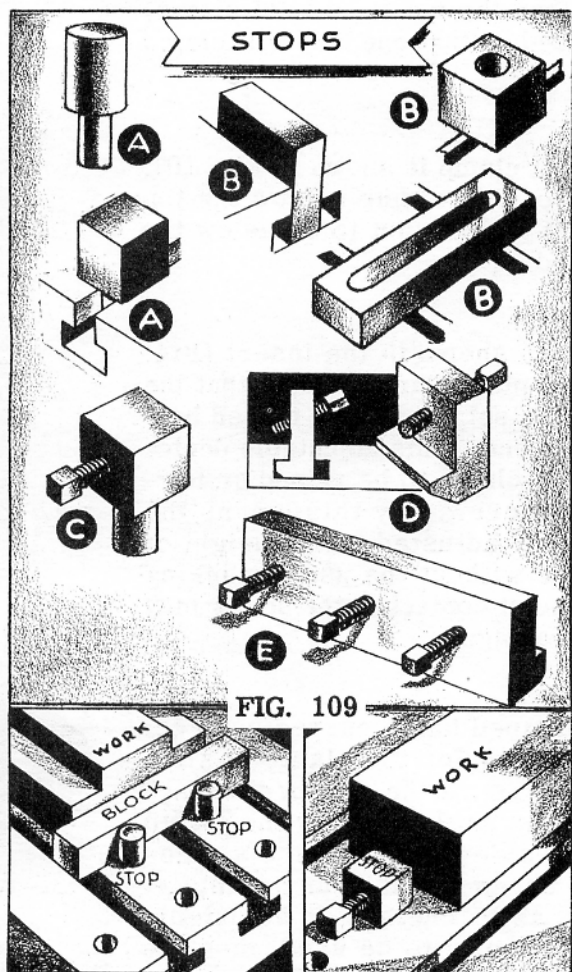

FIG. 109
Stop pins (Fig. 109) are used to prevent movement of the work on the table. They can be placed at the ends or along the sides of the work in order to take the thrust of the tool, or they can be used to hold the work to the table. For locating the stops in relation to the work, the table is provided with holes in addition to the T-slots. Plain stops, as shown at (A) may be round or square pieces of steel turned down at one end to fit the table slots or the reamed holes in the table. Often, stop pins are plain blocks (B) which can be inserted into the table slots. They may also have holes drilled or slots cut through the center so that they can be held to the table with bolts. Others, (D) are provided with steps which catch on the underside of the T-slots. These are inserted in the ends of the T-slot and then pushed along to the required position. The stops, illustrated at (C), (D) and (E) are tapped to hold set screws which can be tightened directly against the work or can be used in connection with toe dogs (Fig. 110). The screws are set either straight or at an angle. Those set straight take the thrust of the tool; ones inclined at an angle are used to exert a downward pressure when the work is being held.